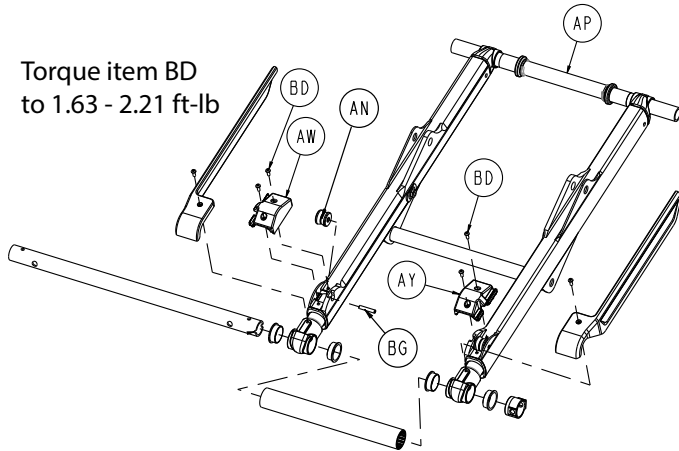

Figure 68 – Lift assembly components
8. Using a T25 Torx driver, remove the two button head cap screws (BD) that secure the roller cover (AW, AY) to the outer lift A-frame weldment (AP) (Figure 68). Save the screws.
- Using a small punch, push the dowel pin (BG) through the external roller assembly (AN) (Figure 68). Remove and save the pin and roller assembly.